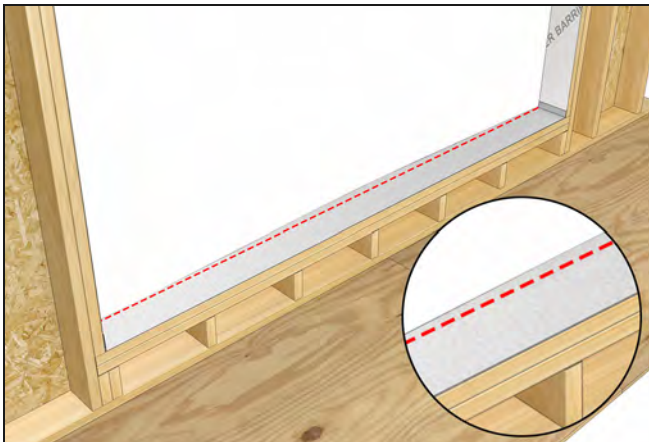

Figure 112
5. Establish an exterior plane along the sill. Use a laser level or snap line. This will be helpful for larger multiple wide assemblies. See Figure 112